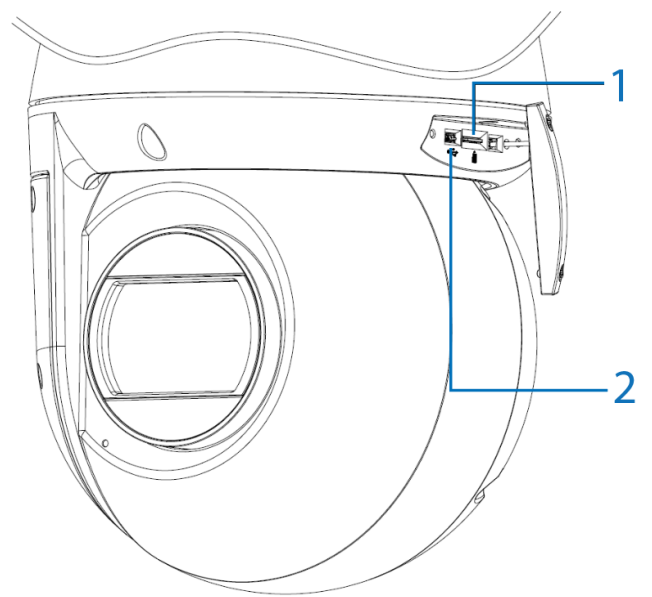

Figure 4
2. Carefully pull open the cover to access the SD card slot (1) (Figure 4) and insert (or remove) the micro SD card into (or from) the camera.
**Note:** The USB cable connection slot (2) (Figure 4) for Wi-Fi configuration is also located under the micro SD card cover. The Wi-Fi option allows wireless configuration of the camera at the point of install in conjunction with the Illustra Tools app (Illustra Wi-Fi dongle required).